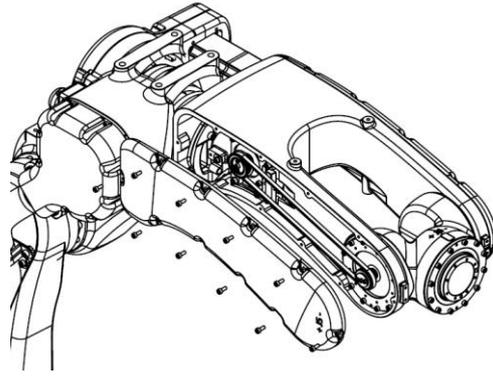

Figure 12-5 Diagram of removing J5 cover plate
- Step4. Remove the J5 cover plate and 10 screws, as shown in Figure 12-5.